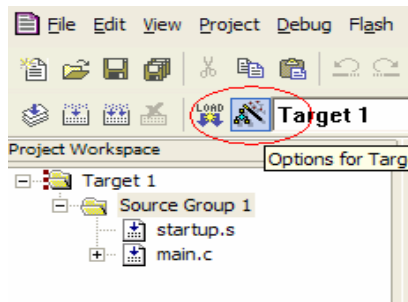

Figure 5
(1) Choose the “Options of Target” as figure 5 shows.